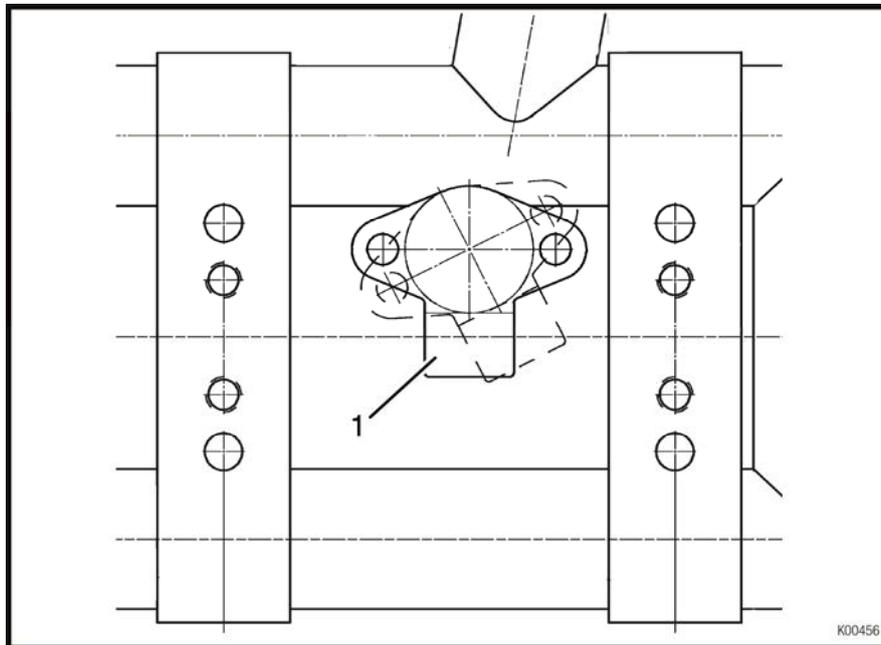

Fig. 39
- ◆ **Note:** Check for easy access to the crankshaft sensor (pos. 1). There are two options to install the pick-up sensor. Choose the orientation which gives you the best fit for your chassis installation. See *Fig. 39*